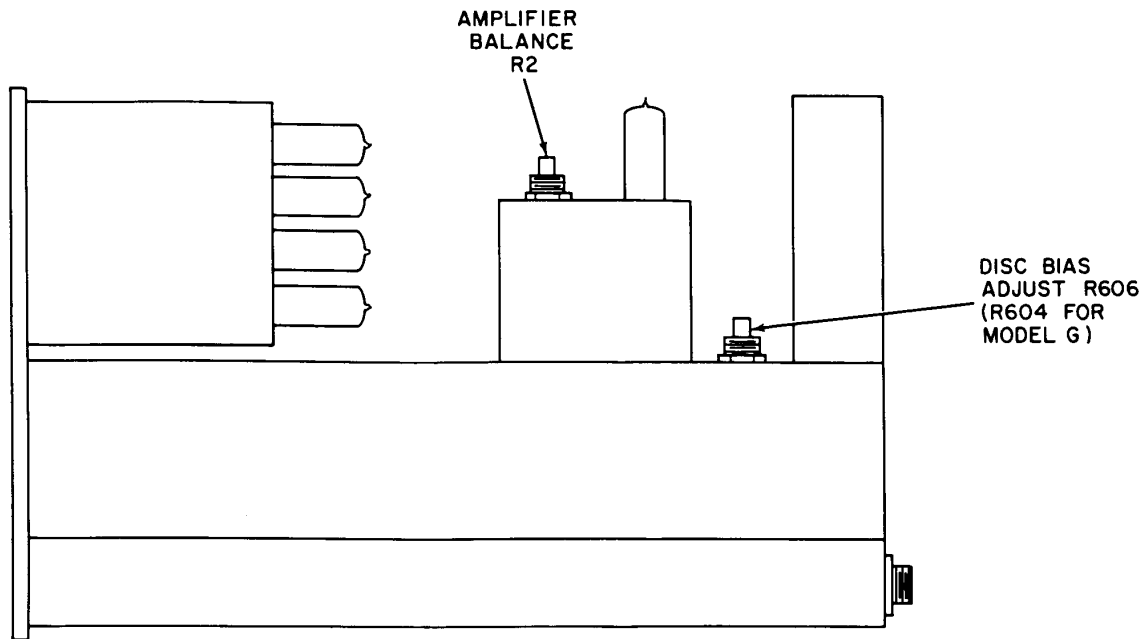

Figure 3. Electronic counter - right side view
- (1) Adjust model A/C/D/E as listed in (a) through (e) below.
- (c) Turn DISC BIAS ADJUST R606 (fig. 3) fully counterclockwise and adjust AMPLIFIER BALANCE R2 (fig. 3) for stable indication on test instrument.
(c) Adjust DISC BIAS ADJUST potentiometer R604 (fig. 3) for stable indication on test instrument.